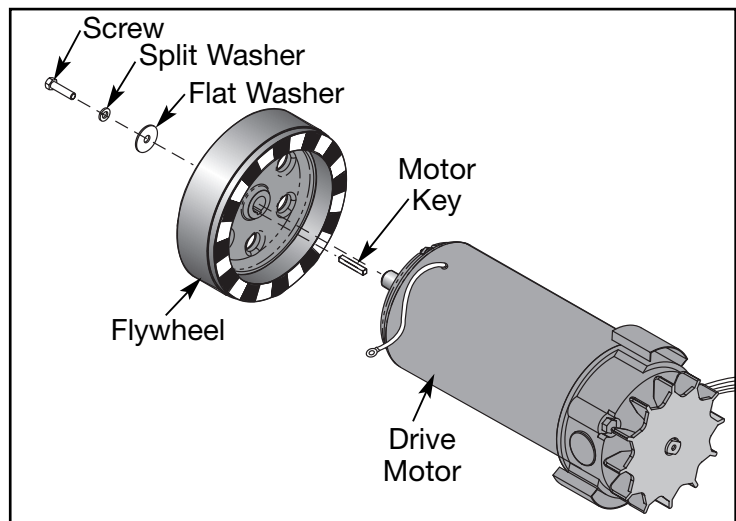

Figure 14
A. Using a 7/16" socket wrench, remove the flywheel, screw, washers and motor (ansi square) key from the old motor. See Figure 14.
B. Place the flywheel in position on the new motor and slide the motor key into the slot on the flywheel. See Figure 14.
C. Using a 7/16" socket wrench, install the flat washer, split washer and screw that hold the flywheel on the motor and then tighten securely (80 in-lbs). See Figure 14.